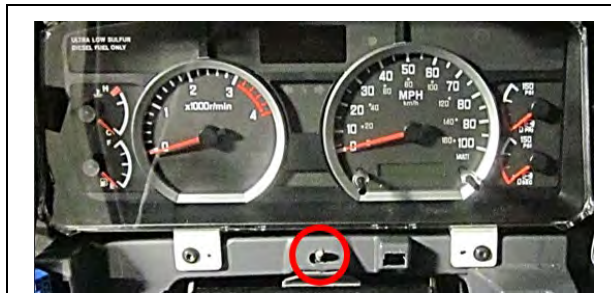

Figure 49
53. Remove the one (1) nut from the IP. (See Figure 49.)